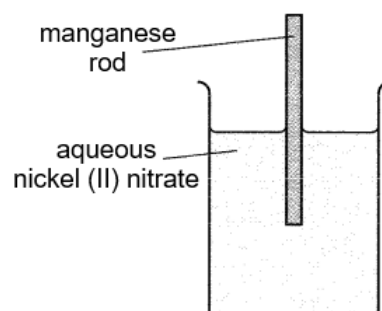

Fig. 9.1
- (ii) Another experiment is carried out as shown in Fig. 9.1.